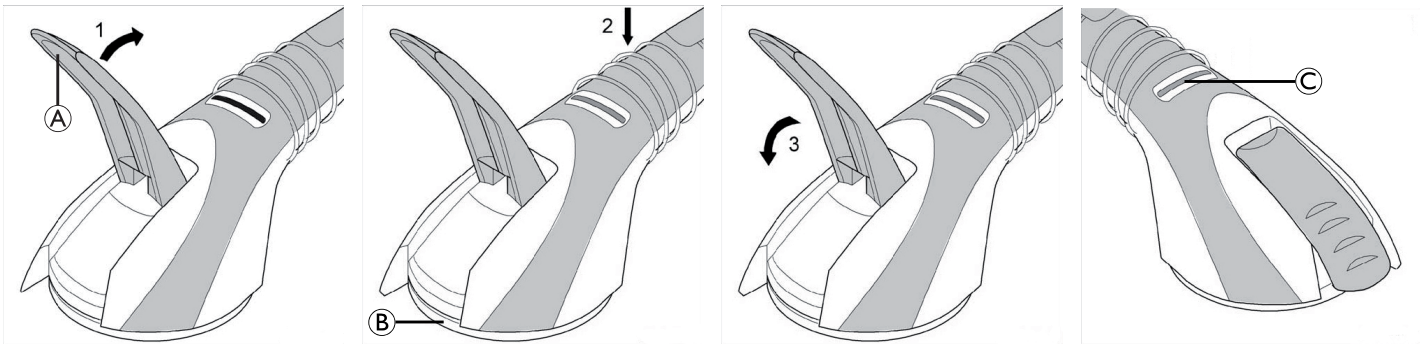

Fig. 3
Warning label for safe usage. Refer to hazard statements in chapter 3.1 Installing the suction grab bar (Fig. 3), page 2.
3.1 Installing the suction grab bar (Fig. 3)